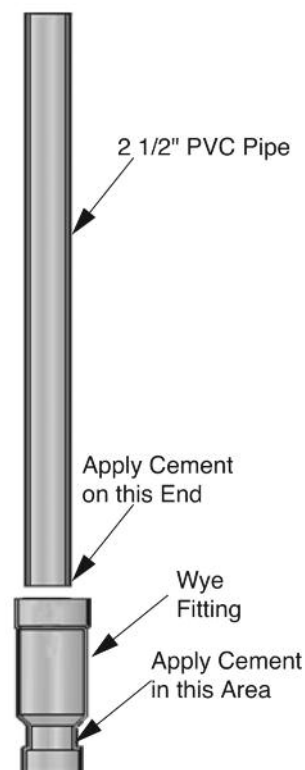

Fig. 7: Assembly of Vent Components - Step 1
3. Begin partial assembly of the termination components in the sequence as shown in Fig. 7 thru Fig. 7B.